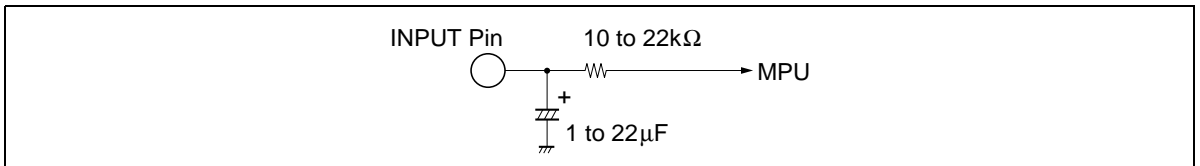

Figure 2 Interface for Reduction of Pop Noise
3. Reducing pop noise is so much better for 10 k Ω to 22 k Ω resistor and 1 μ F to 22 μ F capacitor shown Fig 2. But the resistor connected to MUTE terminal (pin 16) should be under 10 k Ω .